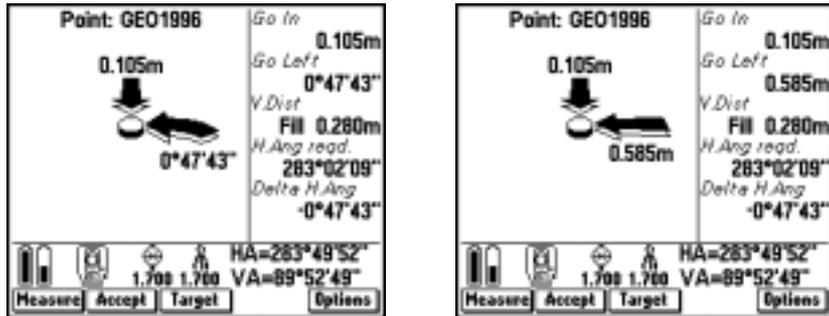

Figure 19.28 Graphical display screen – measurement made, instrument off line
4. When the target has moved, press **Measure** again. If the instrument is turned off line, the two outline arrows disappear and a solid one appears. Figure 19.28 shows two different ways to view this.